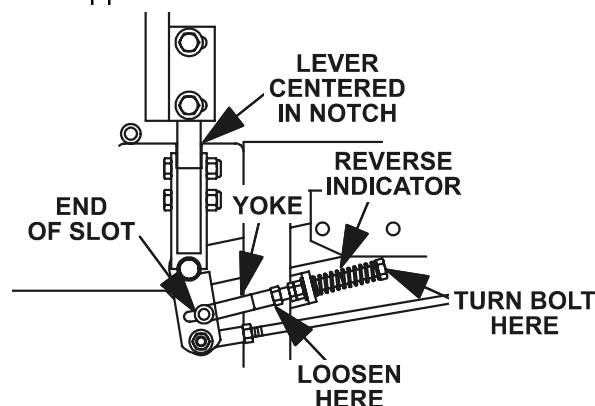

FIGURE 12
- c) Begin with either the left or right motion control lever. Move lever to the neutral position and pull lever back until the clevis pin (on arm below pivot shaft) contacts the end of the slot (just beginning to put pressure on spring), See Figure 12.